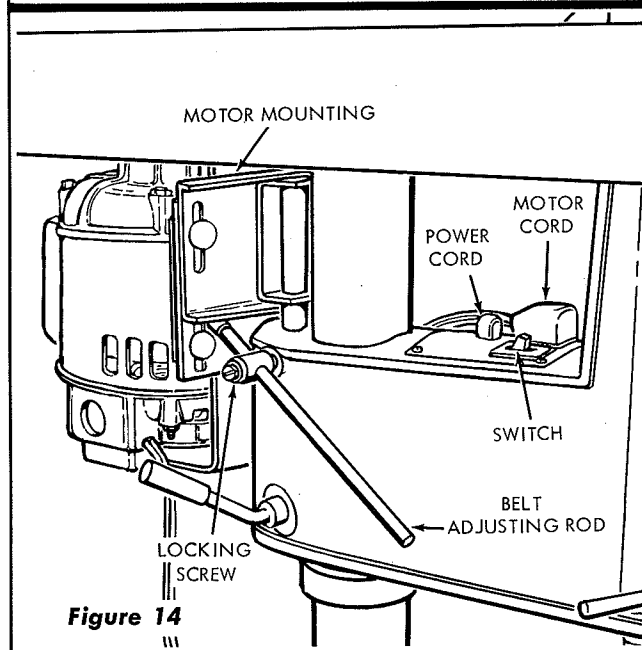

Figure 14
- 9. Switch.** A switch plate on top of the frame, between the quill and motor, contains the "ON-OFF" switch and a receptacle for "plugging-in" the motor power cord. (See figure 14.) The drill press power cord also emerges from this switch plate. If the motor is equipped with a switch, it can be left "ON" and the drill press operated with the drill-press switch. For set-up purposes it may be desirable to keep the light on. This can be accomplished by leaving the drill-press switch "ON", and operating the unit with the motor switch.